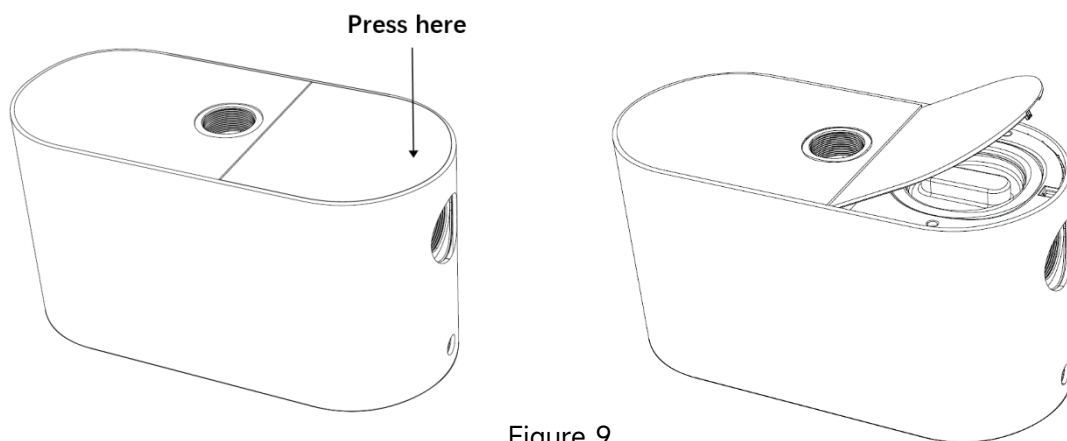

Figure 9
- 2). Press the cover plate to spring it up and open the cover plate. (see Figure 9)